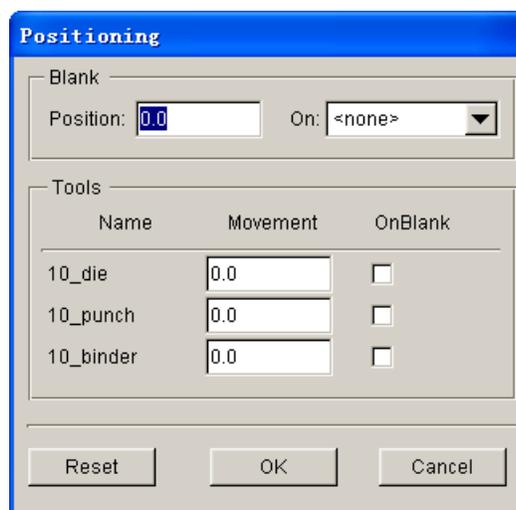

Figure 1.30 Before tools positioning
- Click the **Positioning...** button located at the lower right corner of the tool definition interface to display the POSITIONING dialog box illustrated in Figure 1.30. Alternatively, you can select **Tools→Positioning...** from the menu bar.